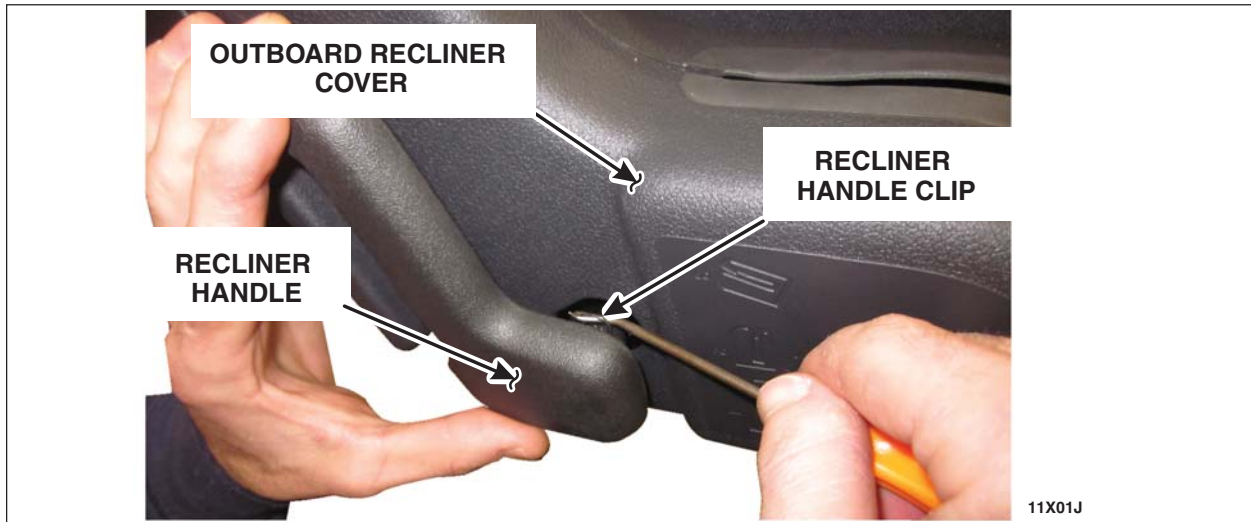

FIGURE 11
26. Using a suitable tool, release the recliner handle clip and remove the recliner handle. See Figure 11.
27. Remove the outboard recliner cover. See Figure 11.